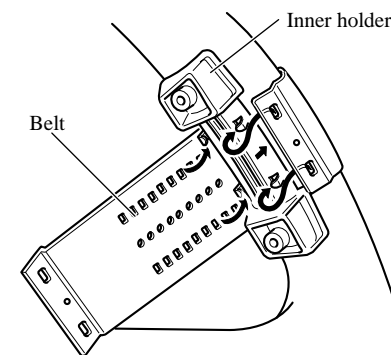

Fig. 15
1. Secure inner holder to the inner circumference of the steering wheel with belt. (Fig. 15)